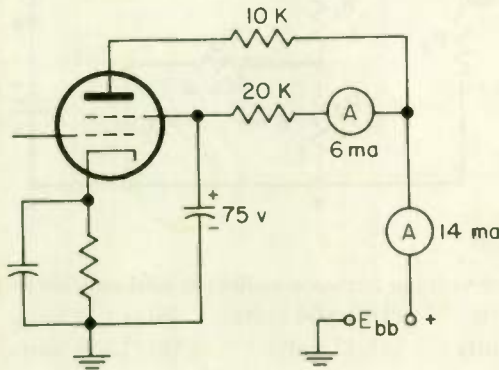

Fig. 50
(1) 50 ma (2) 52 ma (3) 52.5 ma (4) 50.5 ma
39. What is the plate-to-ground voltage in Fig. 50?